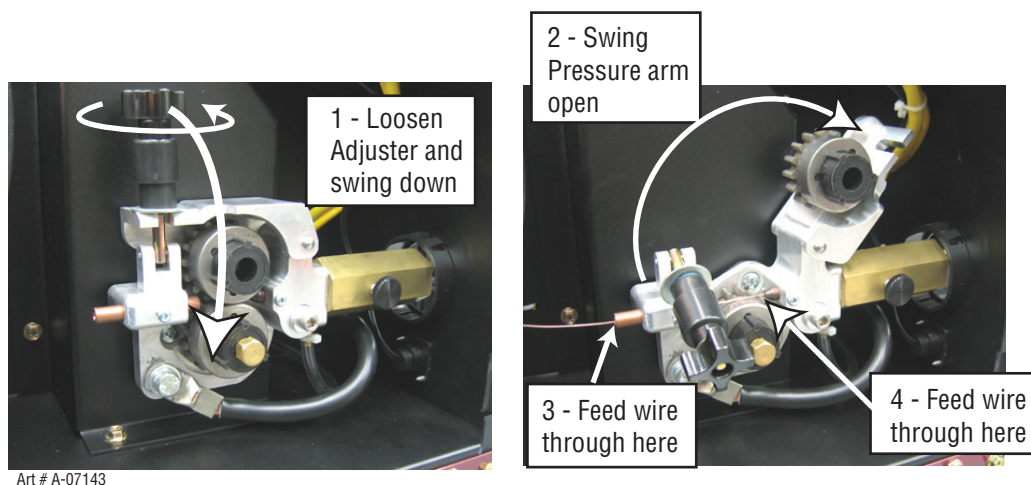

Figure 3-10: Opening Pressure Arm and Inserting Wire
1. Loosen the Spring Pressure Adjusting Knob if needed and swing it down (First part of Figure. 3-10)
2. Move the Pressure (top) Roller Arm by swinging it to the right. (Second part of Figure. 3-10)
3. Make sure the end of the wire is free of any burrs and is straight. Pass the end of wire through the Inlet Wire Guide and over the Feedroll. Make certain the proper groove is being used. (Second part of Figure. 3-10)
4. Pass the wire through the outlet guide and into the Gun liner of the Gun Cable. (Second part of Figure. 3-10)